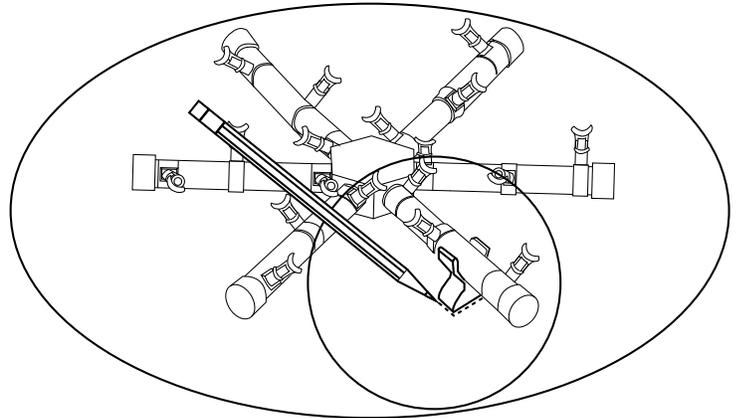

Fig. 8 Tracing burner supports.
**Step 3:** After the burner supports are installed, set the Pro Spur burner into the burner pan, using the nipple to center the Spur burner inside the pan (Fig. 8). While holding the burner place, use a pencil or marker to trace around each burner support to mark their location. Remove the Pro Spur burner from the pan to reveal the outlined area for each burner support.